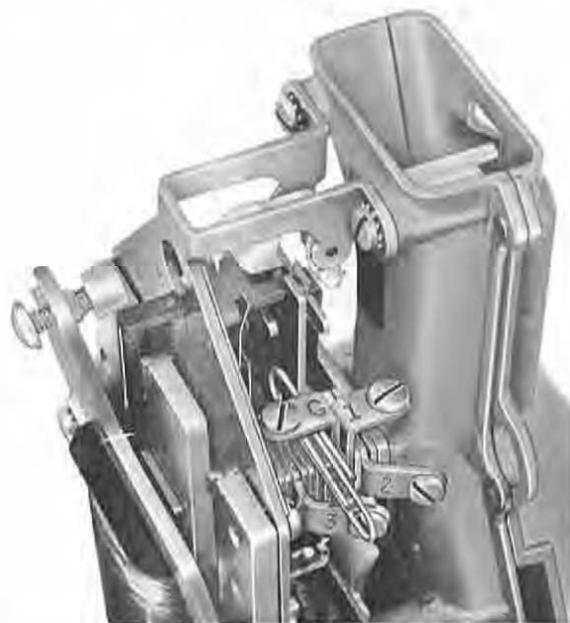

Fig. 3 — Method of Strapping Ground Around Ground Contacts on Coin Relay
- (1) Provide ground on line by strapping around ground contacts. Insert paper clip or equivalent between ground terminal and spring pile-up portion of No. 4 spring as shown in Fig. 3.